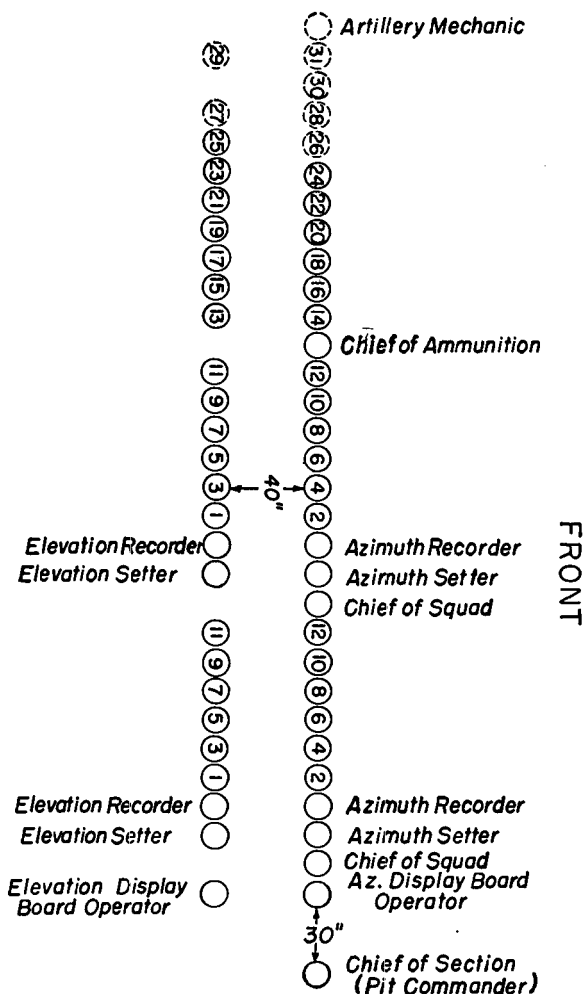

FIGURE 1.—Formation of the gun section.
■ 6. FORMATION.—The gun section assembles in two ranks with 4 inches between files and 40 inches between ranks (fig. 1). The post of the chief of section (pit commander) is in the front rank, 1 pace to the right of his section. The artillery mechanics, members of the maintenance section, form on the left of the first and second gun sections.
or numbers in succession, beginning with the unnumbered members of the section proper, followed by the squads in order. The squads call off successively from right to left, beginning in each squad with the unnumbered cannoneers followed by the numbered cannoneers in order. (See fig. 1.)